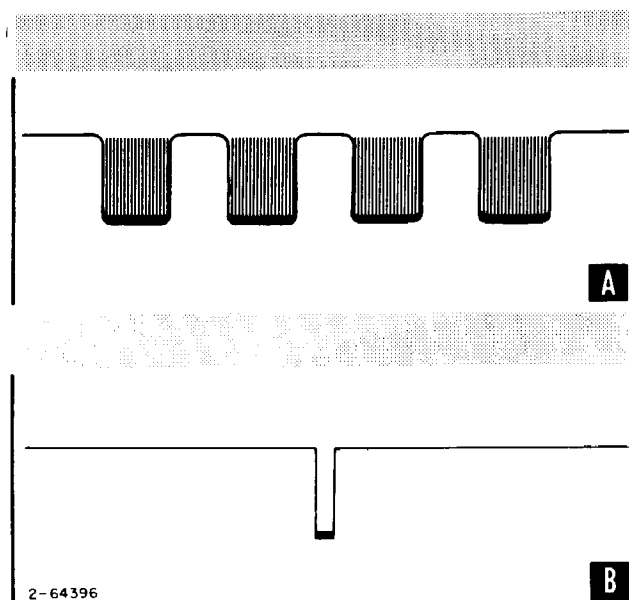

Figure 3-15. Transponder Video Image
j. Place SWEEP SELECTOR switch (8) to .375.
k. Observe that image on Cathode Ray Tube (1) corresponds to figure 3-15 (A).
m. Observe that image on Cathode Ray Tube corresponds to figure 3-15 (B).